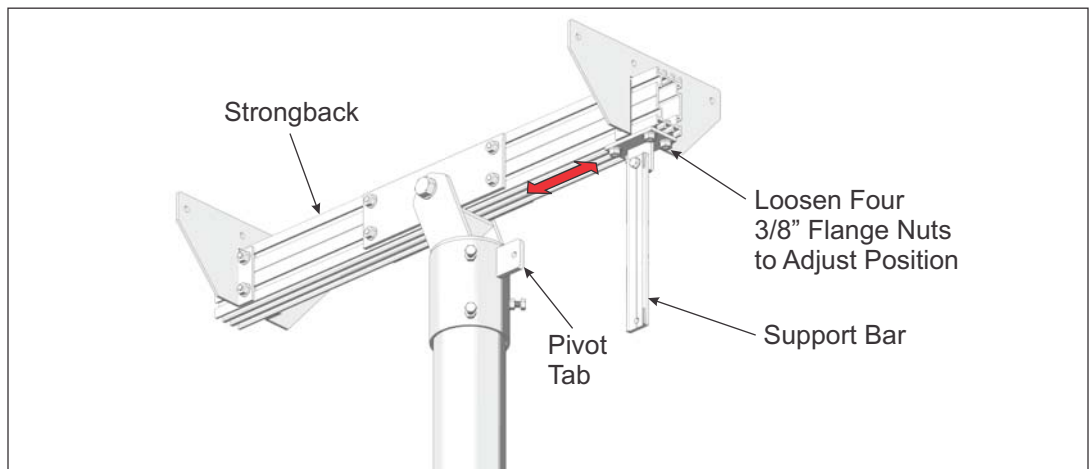

Figure 2-2: Loosening the Support Bar Mounting Tab
- E. First loosen the four 3/8" Flange Nuts securing the Support Bar Mounting Tab to the Strongback. (See Figure 2-2)